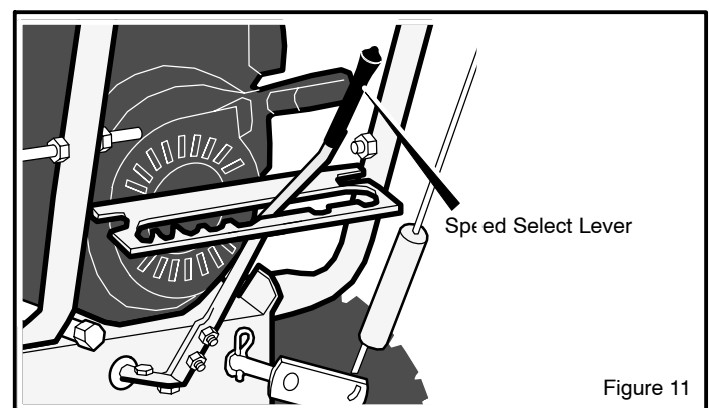

Figure 11
2. Ground speed is determined by snow conditions. Set the **speed select lever** (see Figure 11) in one of the following positions.